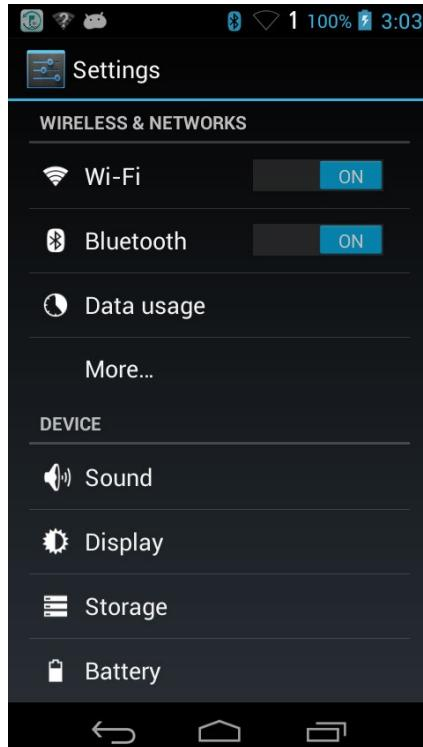
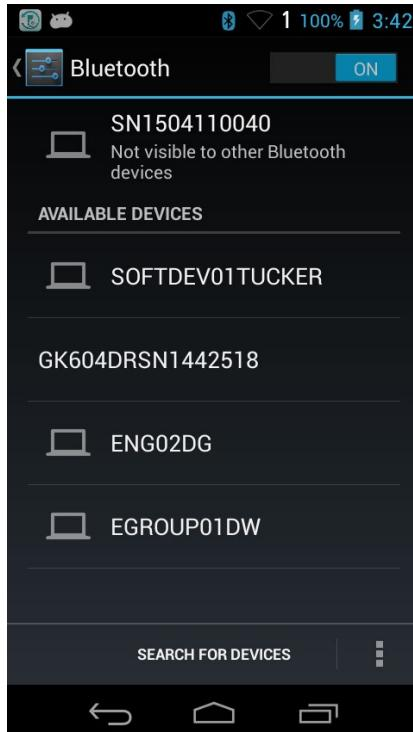
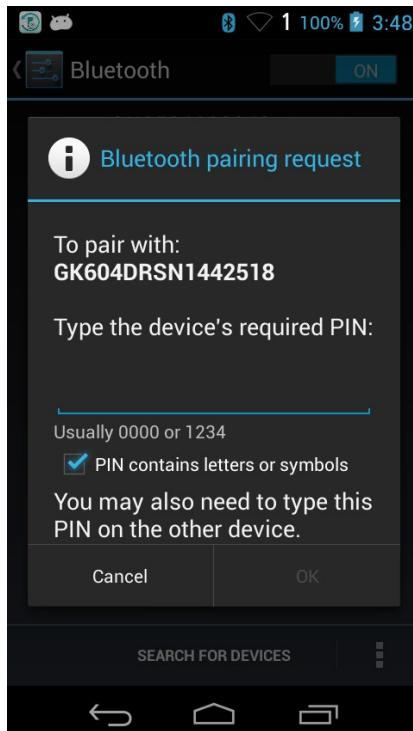

Figure 18 - Android Device Settings Screen
Figure 19 - Bluetooth Pairing Screen
Figure 20 - Bluetooth Pairing Request Screen
- 1) Enter the Settings screen of the Android device (see Figure 18). Insure that the slider next to the “Bluetooth” parameter is set to “ON”. Tap “Bluetooth” to begin setting up a Bluetooth “partnership” (**Note**: For some Android versions the Bluetooth On/Off control may only appear on the Bluetooth Pairing screen (see Figure 19 in step two).
- 2) Press the button labeled “POWER ON” on the Remote Module before tapping “SEARCH FOR DEVICES” from the Bluetooth Pairing screen (Figure 19) to instruct the Android device to begin searching for available wireless devices to pair with.
- 3) Geokon Remote Modules typically have device names that start with “GK604DRSN” followed by the serial number of the reel. (Figure 19 shows an example device called “GK604DRSN1442518”.) Tap on the device to begin the pairing process (Figure 20).